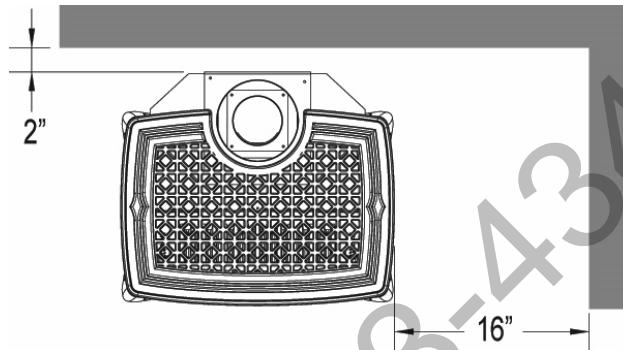

Figure 14 - Minimum Wall Clearances
4. Pull forward and disengage the spring clips securing the top of the glass frame. See *Figure 14*. Tilt the top of the glass frame outward and lift it off the studs on the bottom – set carefully aside.